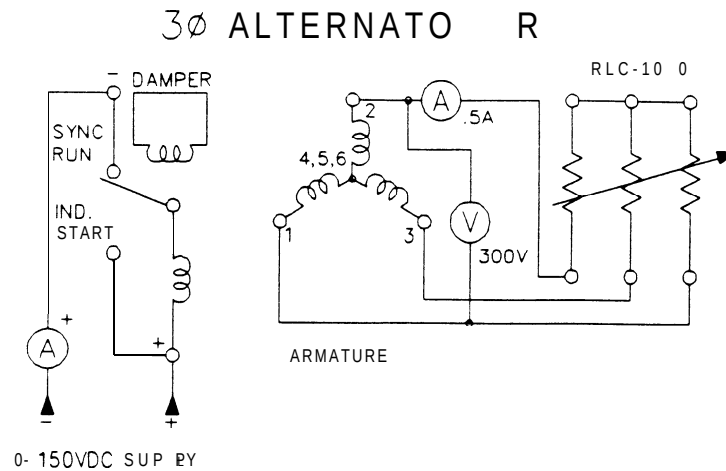

Figure 6-3
Step 19. Connect the field to the excitation (0-150V DC) supply and the RX-100 to the terminals as shown in Figure 6-3. Be sure all of the resistance toggle switches are in the downward (OFF) position.